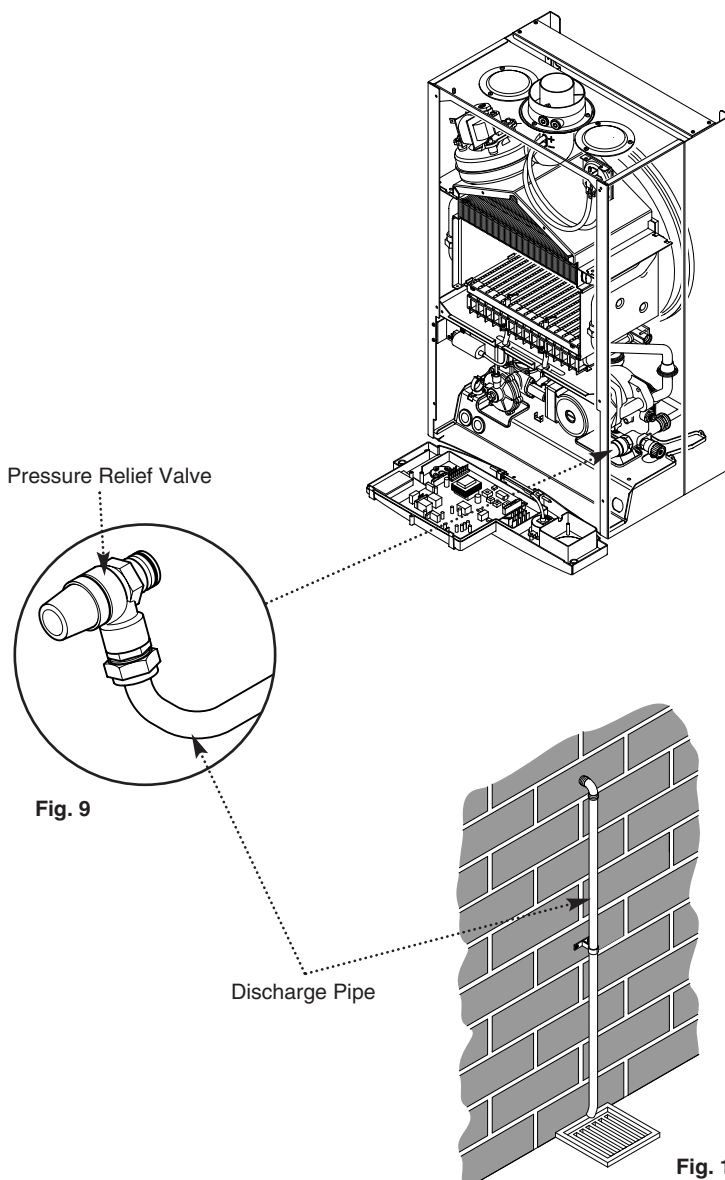

Fig. 10
2. The pressure relief discharge pipe should be not less than 15mm dia, run continuously downward, and discharge outside the building, preferably over a drain (Fig. 10). It should be routed in such a manner that no hazard occurs or causes damage to wiring or electrical components. The end of the pipe should terminate facing down and towards the wall.